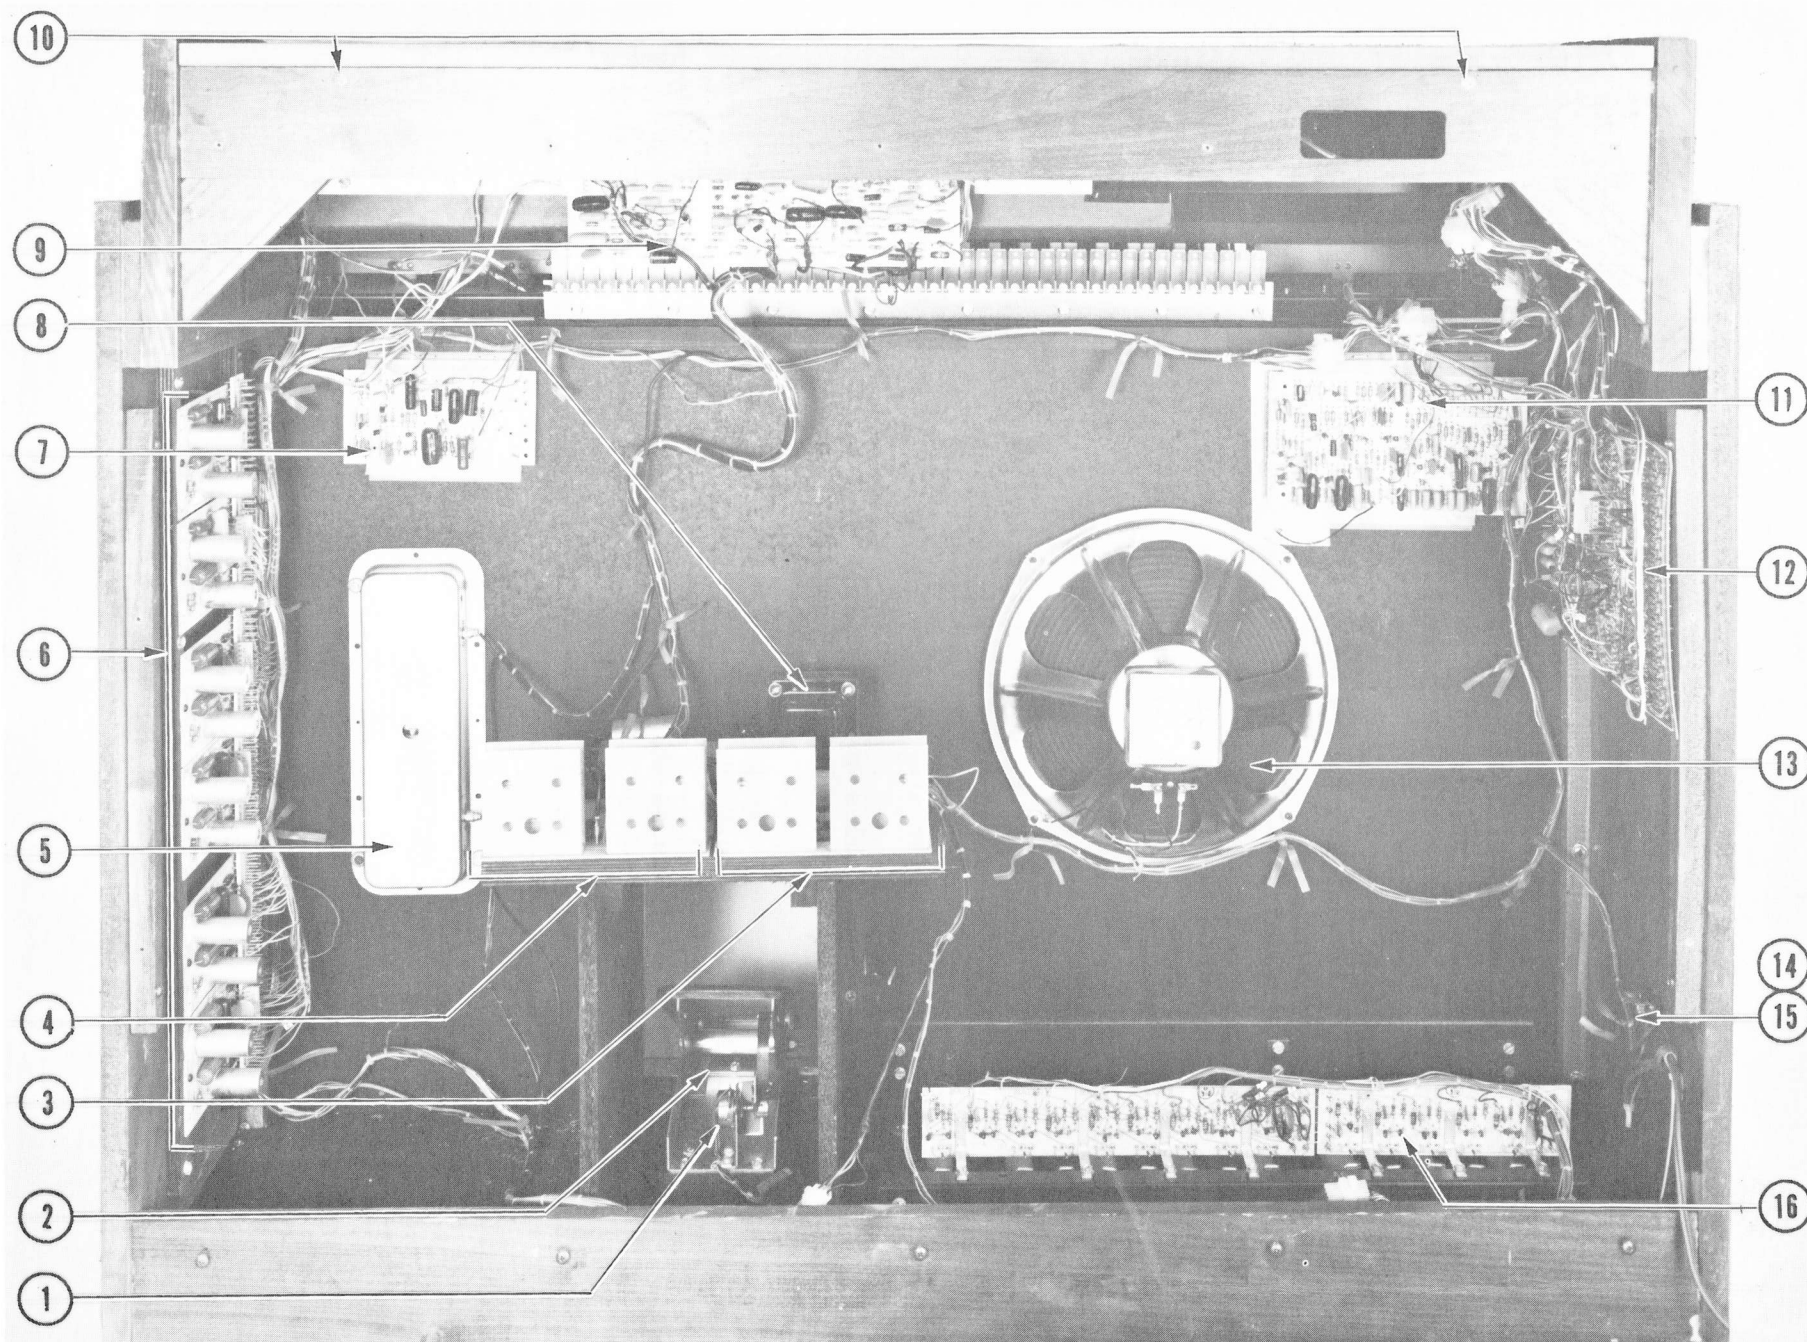

FIG. 38 — N124B ORGAN REAR VIEW (BACK REMOVED)
1. General relocation of board assemblies as seen in Fig. 38.